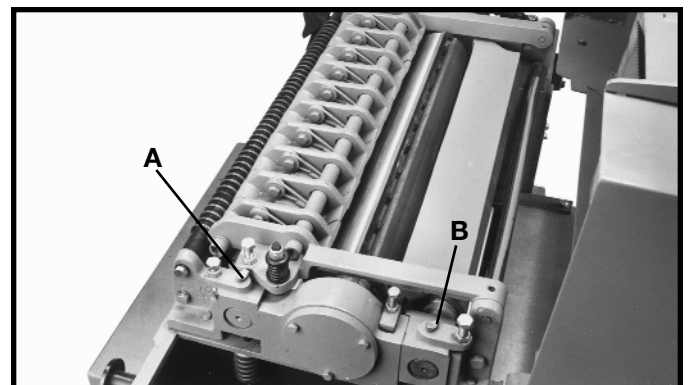

Fig. 55
The machine's feed rollers must be lubricated about every 50 to 100 hours of use or as needed. To lubricate the machine's feed rollers, add a few drops of 10W Machine oil in the oil cups, two of which are shown at (A) and (B) in Fig. 55. The other two are in the same location on the opposite side of the rollers.